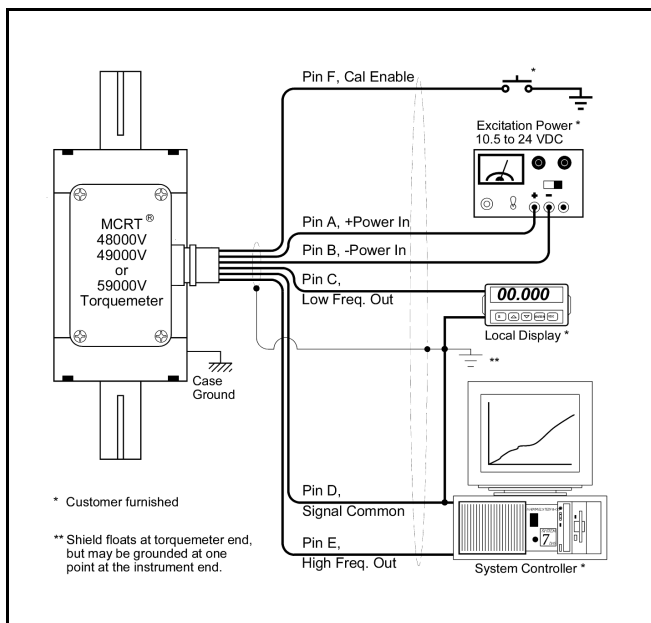

Figure 5. Torque Signal Connections
Connect excitation power to connector pins A and B; see Figure 5. Reverse polarity protection is standard. Observe the load resistance and capacity limits specified. **The torqueometer case should be connected directly to earth ground when conduit isn't used or, if its not reliably grounded.** Although any wire may be used for connections, *shielded cable will perform best in noisy environments and is recommended.* Note: the mating connector with cable clamp and boot, part number 320-1079, is furnished.
3. **Activate** and **hold** the **cal enable**, then adjust the **span control** (see Figure 5) for the equivalent torque calibration value (reference signal) listed on the attached calibration printout.